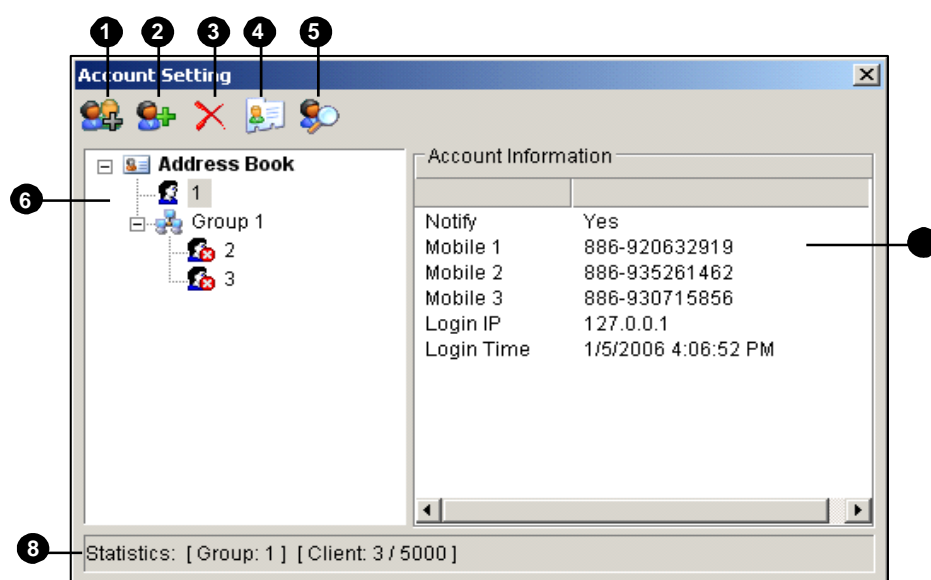

Figure 10-6 Account Setting
1. Click the **Add A Client** button (No. 2, Figure 10-6). This dialog box appears.
In the Account Settings window (Figure 10-6), right-click the desired client and then select **Disable**.